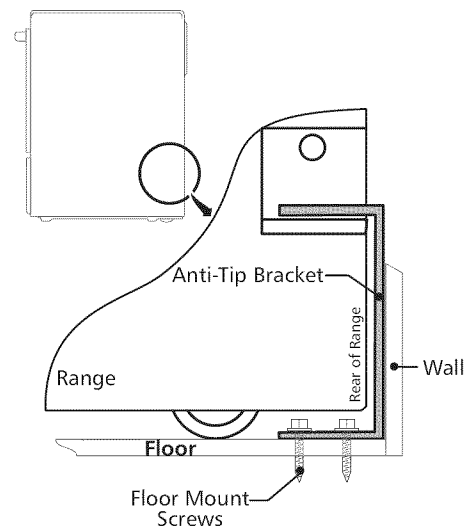

Figure 15
4. Remove template and place bracket on floor. Line up holes in bracket with marks on floor and attach with 4 screws provided. Bracket must be secured to solid floor (Figure 15). If attaching to concrete floor, first drill 3/16" (0,48 cm) dia. pilot holes using masonry drill bit.
6. Slide range into place making sure structure of the range is trapped by the anti-tip bracket (Figure 15). Lower the range by adjusting the 4 levelling legs until the underside of the cooktop is sitting level on the countertop. Refer to "Levelling the Range" section.